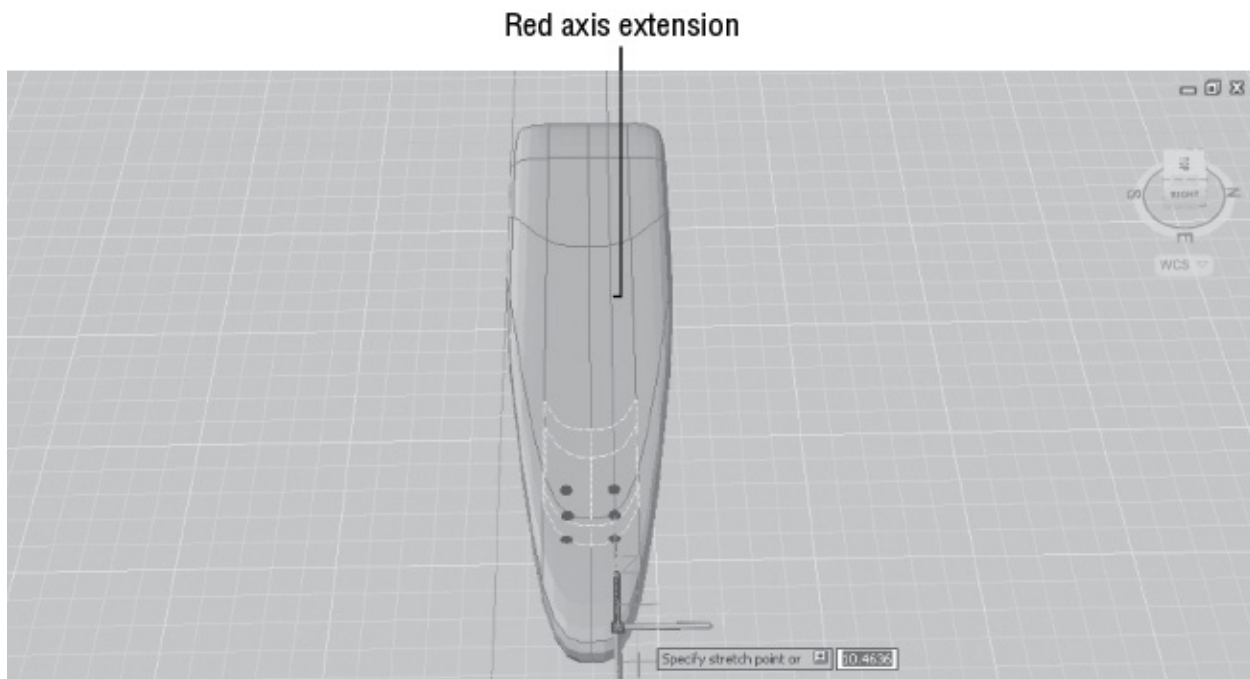

FIGURE 23.10 Use the gizmo, and when you see the red axis vector, drag the cursor to pull the object.
6. When your mesh looks similar to Figure 23.10, click your mouse button to release the mesh.